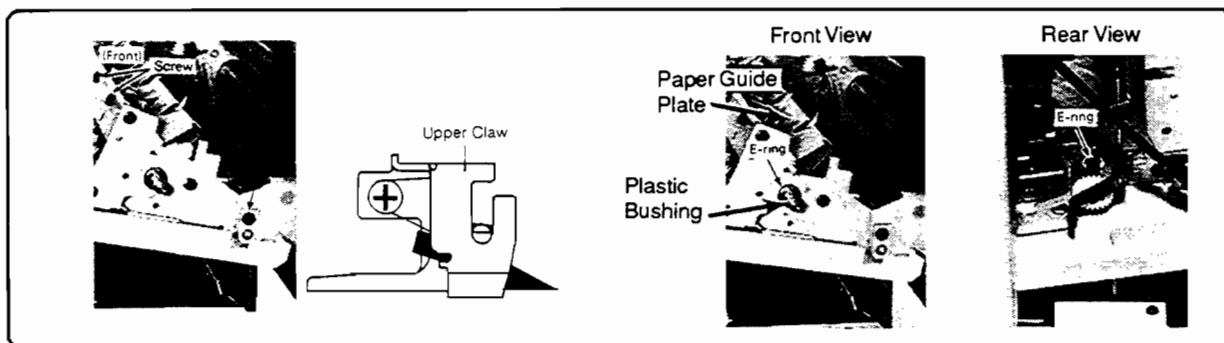

Figure 6-86. Fuser Separation Claws
2. Remove the screw holding each upper Separation Claw unit and remove the unit (Figure 6-86).
2. Remove the two e-rings on each end of the roller shaft, slide out the plastic bushings and detach the paper guide plate (Figure 6-86).